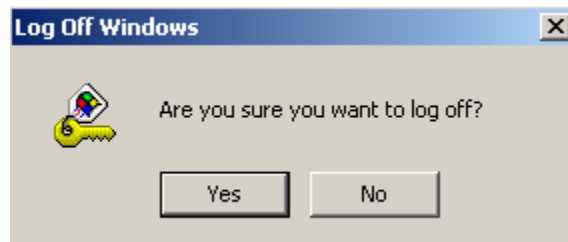

Figure 1-139. Confirm Log Off
- b. The Log Off Windows dialog is displayed (Figure 1-139). Press and hold down the left **Shift** key and click **YES**. Keep the key pressed until the logon window is displayed. Ignore pop up windows with error messages.